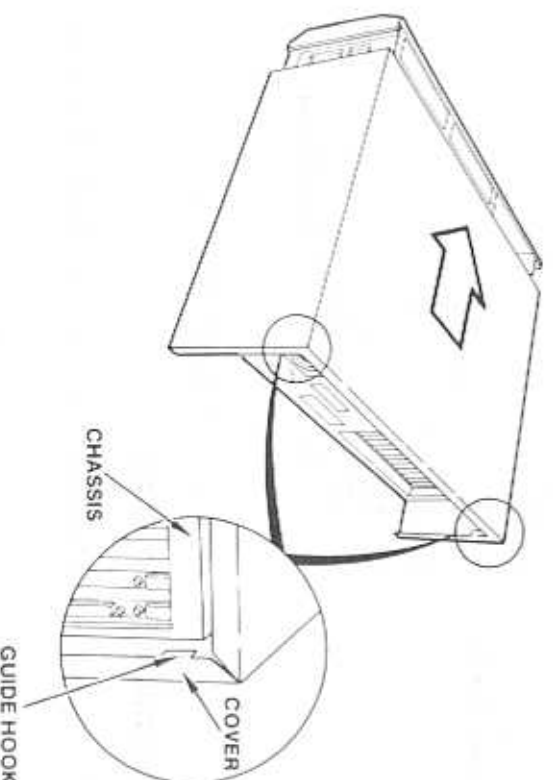

Figure 3-10. Replacing the System Unit Cover
3. Holding both sides of the cover, lower it onto the chassis and slide it gently forward. Make sure the lip on the front edge of the cover is inside the front panel and the guide hooks on the rear corners of the cover fit into the slots in the chassis, as shown in Figure 3-10.